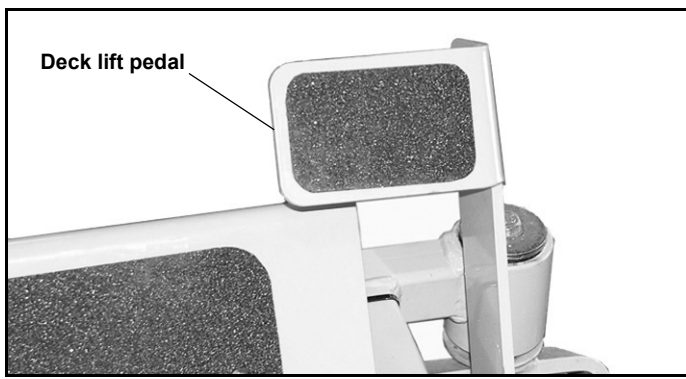

Figure 3-4
- B. Deck lift pedal (Figure 3-4)** — the deck lift pedal is used to raise or lower the deck. Push on the pedal to raise the deck and then place the deck height locking pin into the desired cutting height hole. Push the deck lift pedal to raise the deck when going over obstructions.